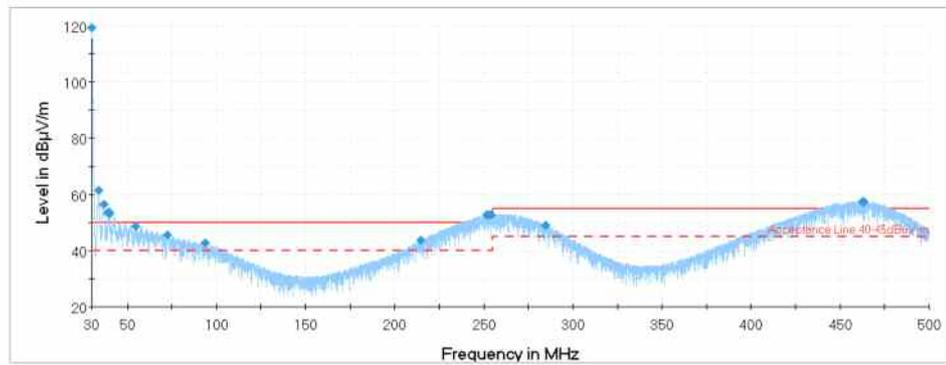
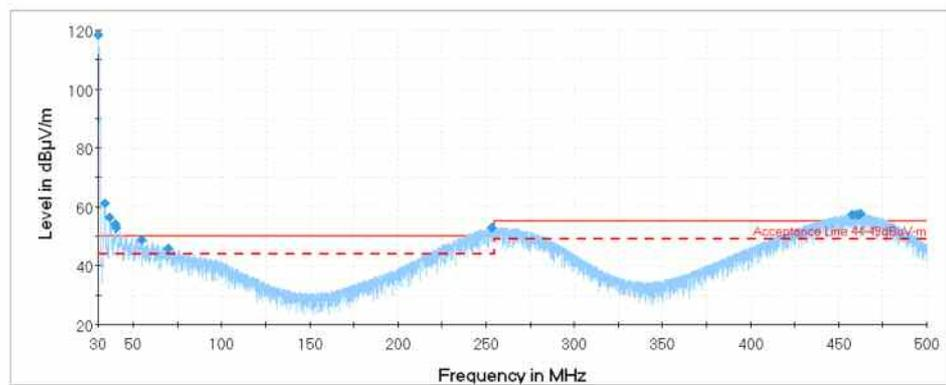

Figure 32: Partial Acceptance Analysis with -10 dB Threshold, blue points are merged results of the previous peak analysis (Path 1 & 2)
Figure 33: Partial Acceptance Analysis with -6 dB Threshold
- A fixed Acceptance Offset (e.g. -10 dB, Figure 32 or -6 dB, Figure 33). An offset means that all level points which are higher than the limit line value reduced by the offset value will be accepted.